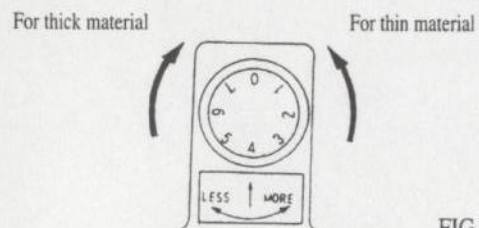

FIG.18
9. TO ADJUST THE STITCH DEPTH (FIG.18)